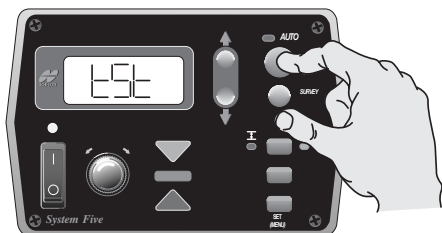

Figure 37. Select Test Mode
1. From the Performance Menu, press the Auto button to select Test Mode (Figure 37).